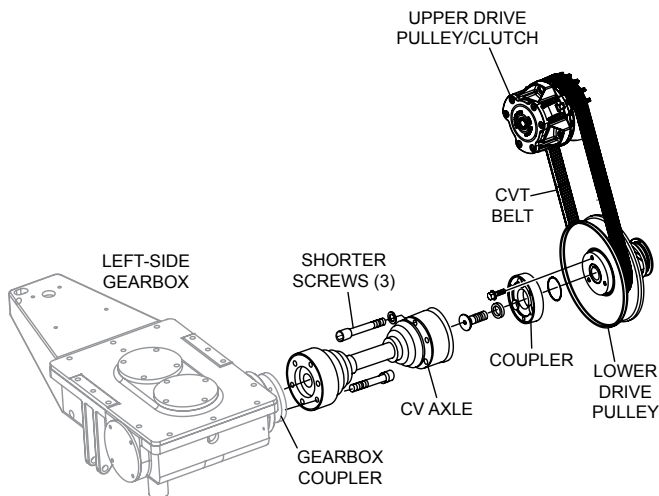

Figure 28. Remove Left-Side CV Axle
2. Disconnect the left-side CV Axle from the left-side gearbox and the lower drive pulley coupler. See Figure 28.
3. Reconnect left-side CV Axle Assembly to the left side gearbox and lower drive pulley coupler. See Figure 28.